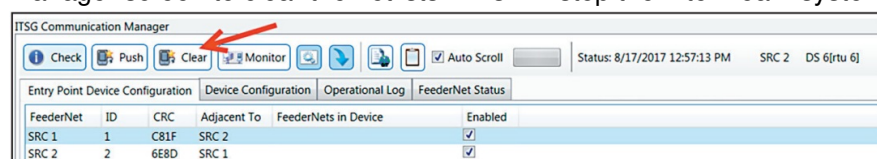

**Figure 2. The Substation Team Attributes>IntelliTeam Options Enabled setting.**
**STEP 4.** For the IntelliTeam Options Enabled setting, select the ITII option, as shown in **Figure 2**.